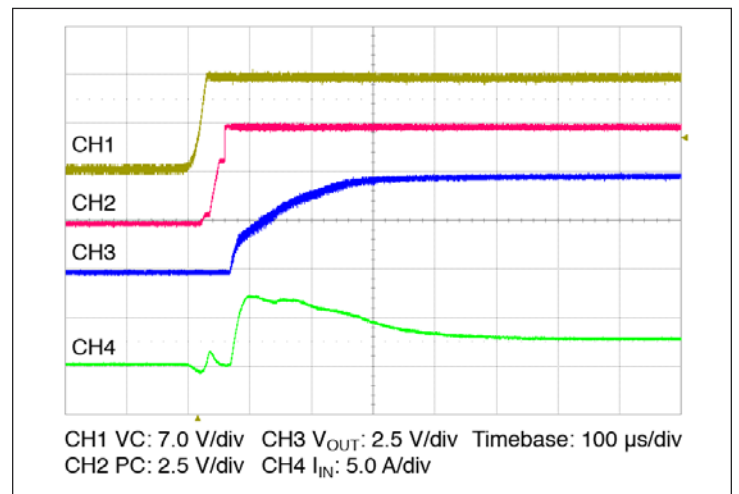

Figure 14 — Start up from application of VC; V_{IN} pre-applied $C_{OUT} = 2000 \mu\text{F}$
- Stand Alone Operation (VC applied after V_{IN}): In this case the module output will begin to rise upon the application of the VC voltage (See Figure 14). The Adaptive Soft Start circuit (See Section 10) may vary the output rate of rise in order to limit the inrush current to its maximum level. When starting into high capacitance, or a short, the output current will be limited for a maximum of 900 μsec. After this period, the adaptive soft start circuit will time out and the module may shut down. No restart will be attempted until VC is re-applied, or PC is toggled. The maximum output capacitance is limited to 2000 μF in this mode of operation to ensure a successful start.